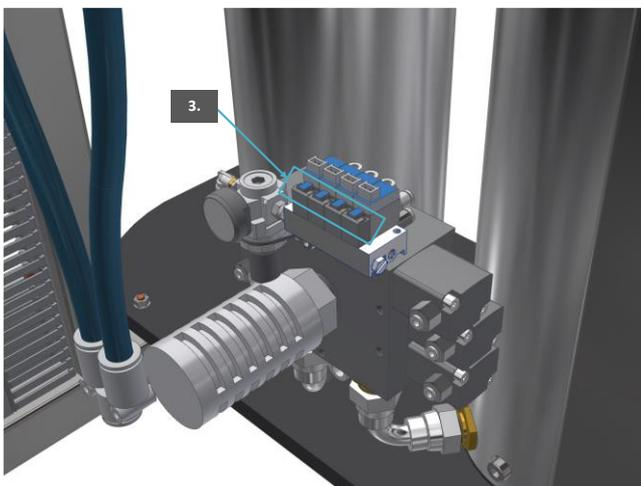

Figure 21. Valves
- 1 Do this by opening 2 of the 3 control valves (valves 1 and 2) manually at the same time, as shown at Figure 21 no. 3. Keep the control valves open until both pressure gauges are dropped to $\pm 0,5$ bar. The pressure can't get any lower.